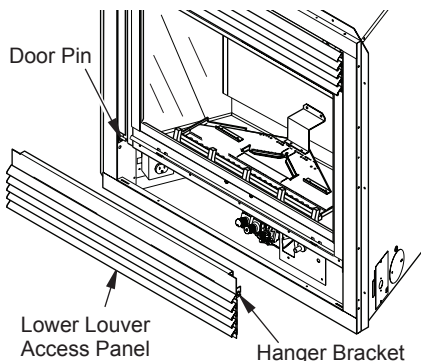

Figure 43 - Removing Lower Louver Access Panel
1. Grasp lower louver panel and pull up until hanger brackets release from door pins (see Figure 43).
1. Remove lower louver panel (see Removing Lower Louver Access Panel and Figure 43).